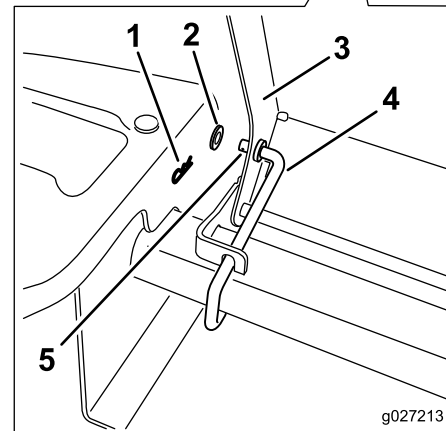
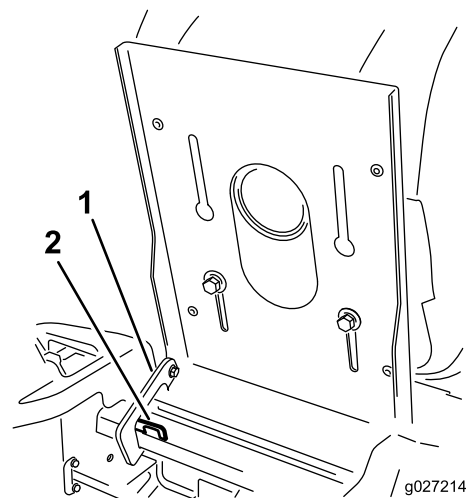

Figure 4
Figure 5
Note: Use Figure 4 and Figure 5 to determine which seat-hold bar is on your machine. Follow the appropriate instructions.
1. If your seat latch is as shown in Figure 4, locate the seat-hold bar on the frame of the machine.
4. Secure the bar with the washer and cotter pin removed previously (Figure 4).
5. If your seat-hold bar is as shown in Figure 5, ensure the seat latch is above the welded tab the first time it is put into the user position.